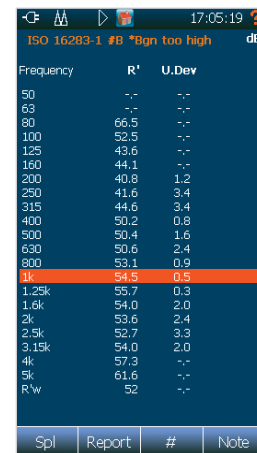

Figure 18.48
- Use the **#** soft key to have a specific source position (#A...#D) displayed - Figure 18.48.